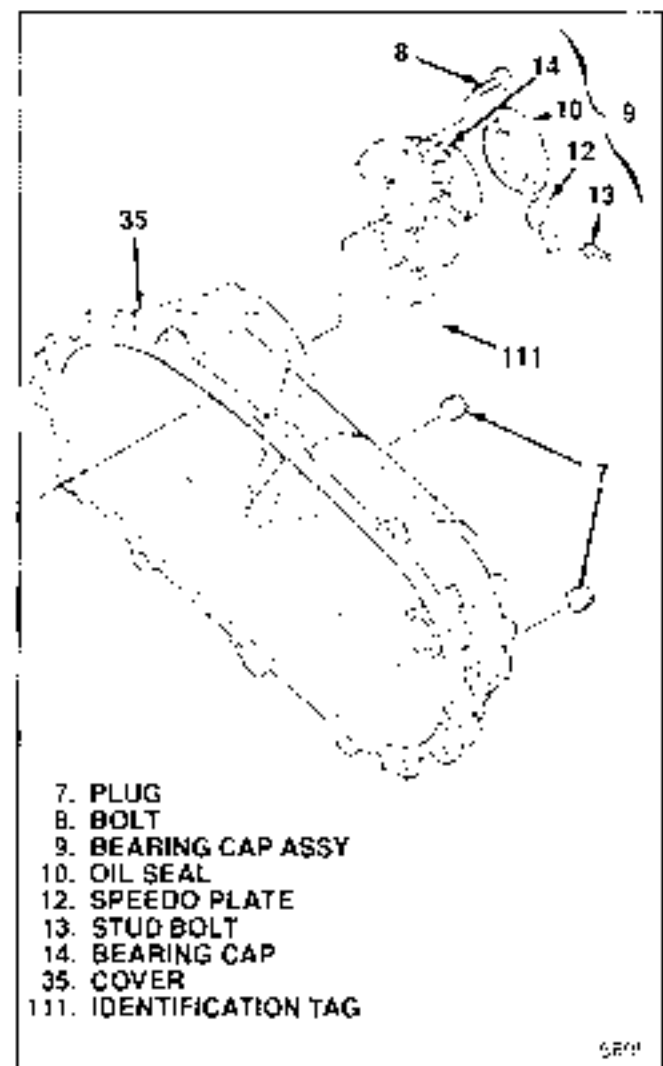
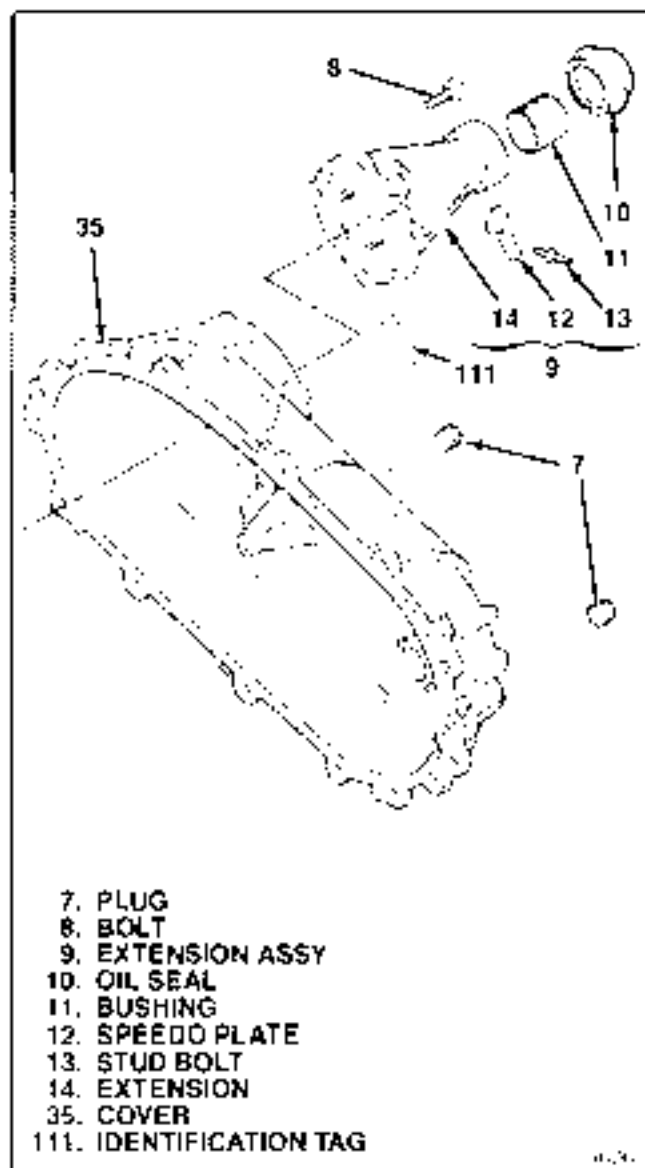
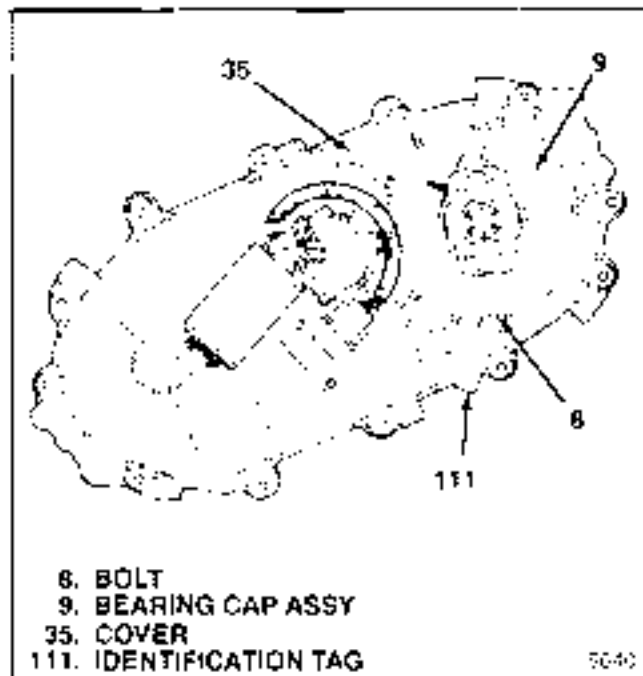

Figure 5-26. Bearing Cap Group (Rear Yoke or Flange)
Figure 5-27. Bearing Cap Group (Rear Spline)
Figure 5-28. Identification Tag Location
**5-17. ASSEMBLY AND INSTALLATION OF BEARING CAP OR EXTENSION GROUP.** Proceed as follows (see figure 5-26 for rear yoke or flange, figure 5-27 for rear splines):
a. Attach speedo plate (12) to bearing cap (14) with stud bolt (13).
b. For rear spline units only, press new bushing (11) into extension (14) using suitable drift.
c. Press new oil seal (10) into bearing cap or extension (14).
d. Apply sealant (comp. 116 or 118 mm bead of sealant (Neutral Cure RTV, Lot No. 598) all around cover (15) mounting face for bearing cap or extension assembly (9). Center sealant bead between edges of face. Circle bolt holes.
e. Install bearing cap or extension assembly (9) on cover (35) and attach with four bolts (8). Install identification tag (11) under head of one bolt at location shown in figure 5-28. Torque bolts to 18-28 ft-lb (24-38 Nm).